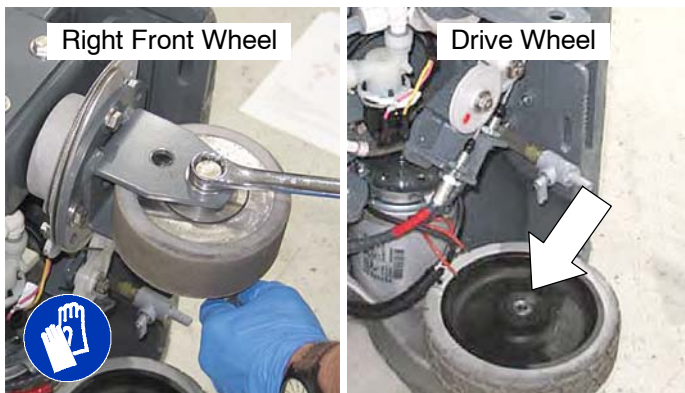

Fig. 1
3. Remove the right front wheel and the hardware securing the drive wheel (Figure 1). Do not remove drive wheel.